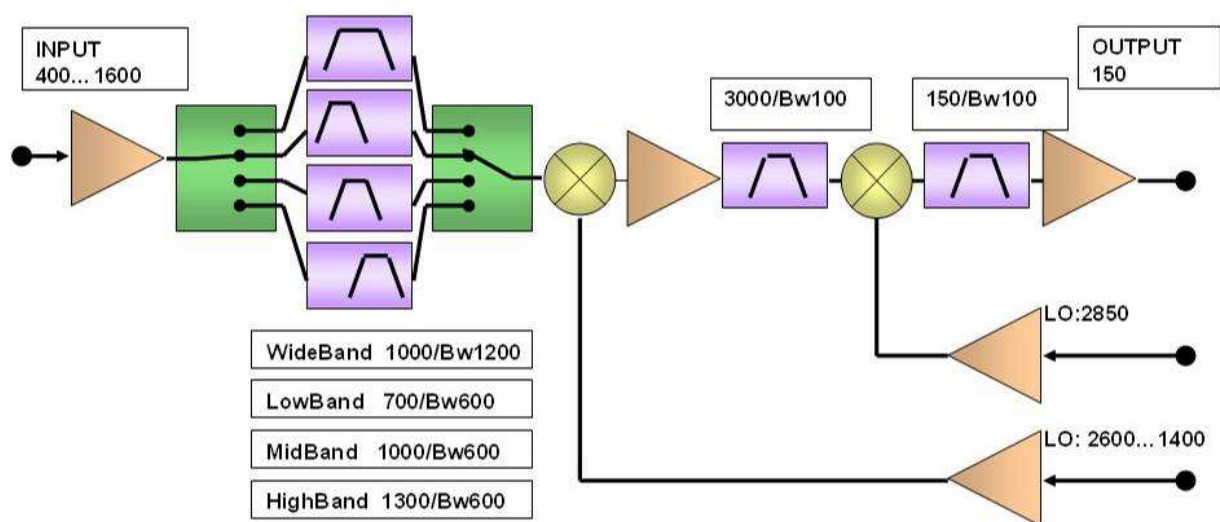
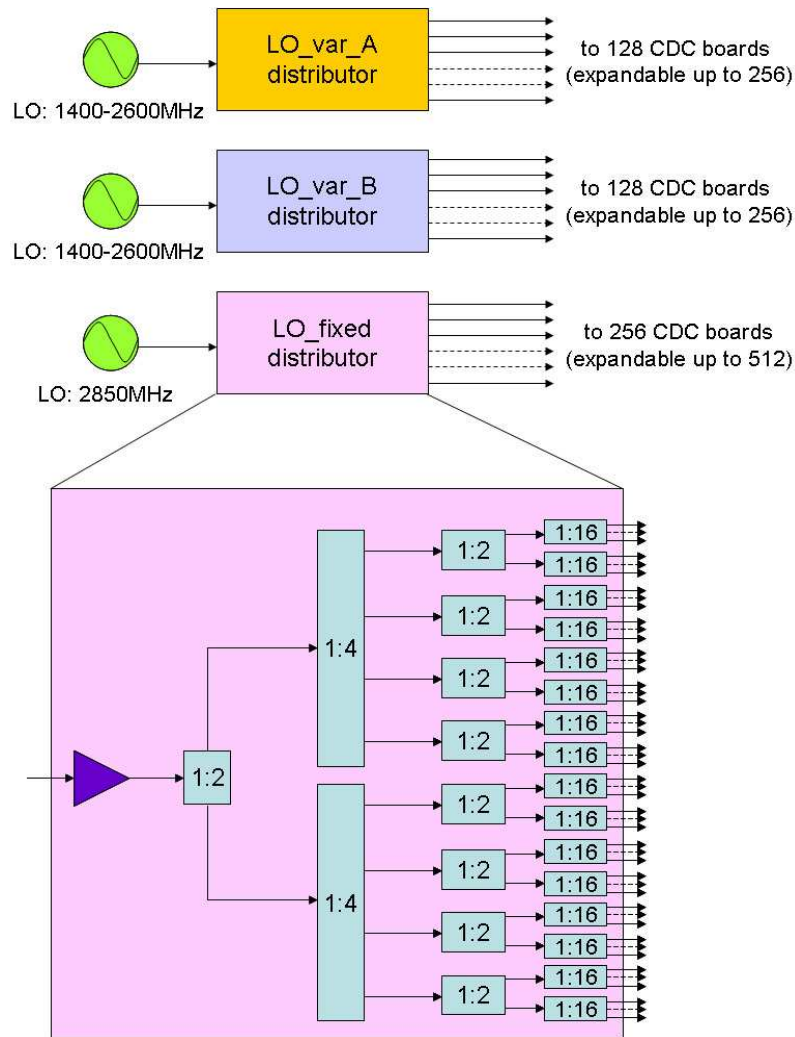

Fig. 2. EMBRACE receiver general architecture.
Fig. 3. LO Christmas trees architecture.
EMBRACE (Electronic Multi-Beam Radio Astronomy ConcEpt) is planned as about 300 square metre aperture array with multiple large independent Field of View (FoV) capabilities. It will operate in the frequency band 400-1600MHz and it will have two independent and steerable beams (figure 1). In order to obtain that feature, the analogue receiver chains are split by 2 somewhere at the tile level, just before the first beam former stage. Due to its large operational bandwidth, the receiver chains adopt a double conversion scheme [1] (figure 2); this implies that the system needs two Local Oscillators (LO). The first conversion shifts the RF band to the first intermediate frequency (IF1), centred at 3000MHz and 100MHz wide. This operation requires a variable LO whose frequency sweeps from 1400MHz to 2600MHz. The second conversion shifts IF1 to the second intermediate frequency (IF2) at 150MHz (i.e. IF2 band is 100-200MHz). This operation requires a fixed LO at 2850MHz. Both LOs must drive mixers located in the receiver boards, named Control and DownConversion board (CDC), where the requested input power level is in the range between +2 to +5dBm. Since EMBRACE works as a phased array, it's extremely important to guarantee the same phase relation among the receivers. For that reason, to distribute the LOs from the synthesizers to the receiver boards, a Christmas tree architecture has been planned [2] (figure 3) for each LO chains. In this document is reported the design and the description of the Embrace LO distribution system.